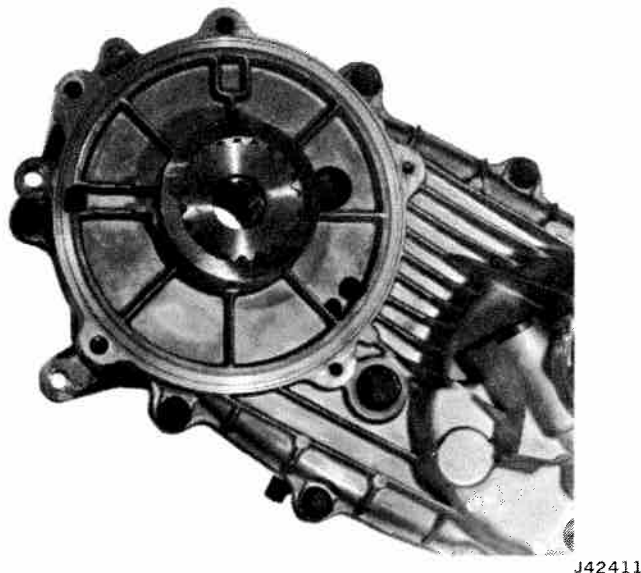

Fig. 8-58 Drive Hub and Sleeve Installed
(7) Carefully align and position case cover onto drive sprocket and differential. Output shaft may require slight rotation to align with lockup hub. Be sure drive sprocket thrust washer does not become mispositioned.
(8) If disassembled, assemble drive hub, drive sleeve, and snap ring (fig. 8-58).